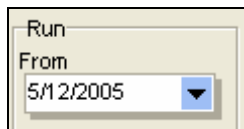

Figure 17.2.6
4. Enter the date that you want this Program to begin on (Figure 17.2.6).